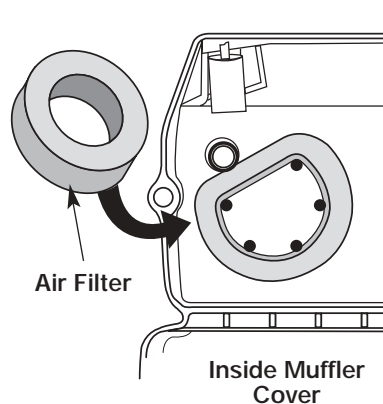

Fig. 37
2. Turn cover over and look inside to locate the air filter. Remove the air filter from inside the air filter/muffler cover (Fig. 37).
6. Replace the air filter inside the air filter/muffler cover (Fig. 37).